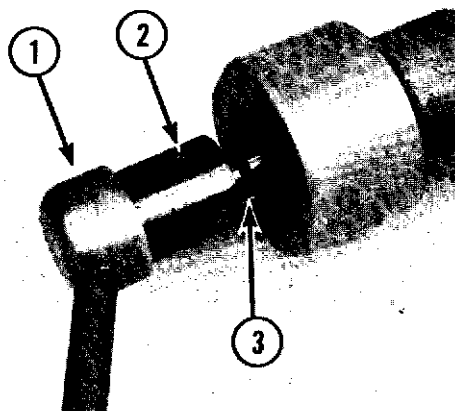

Fig. 11-16
- D. Remove the gear shift handle and shaft (1, Fig. 11-16) from the bracket.
- E. If necessary, the handle can be removed from the shaft by driving out the rollpin (2, Fig. 11-16).
- A. Inspect, and replace if necessary the "O" ring (3, Fig. 11-16).
- B. Insert the gear shift handle and shaft into the clutch hub and bracket as shown in Fig. 11-16.